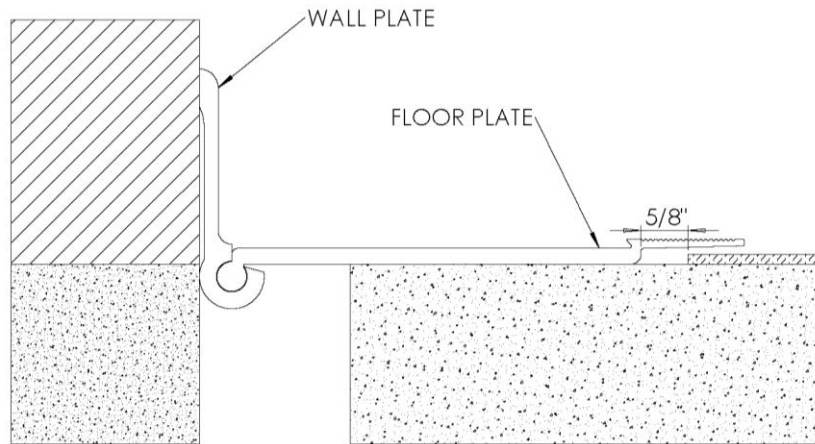

FIGURE 2
2. Position the cover system into the expansion joint with the wall plate placed tight against the wall and the floor plate sitting level on the floor. The concrete on the floor plate side of the floor should be marked 5/8" from the offset in the floor plate. This is where the flooring should end on this side of the expansion joint. **See Figure 2**